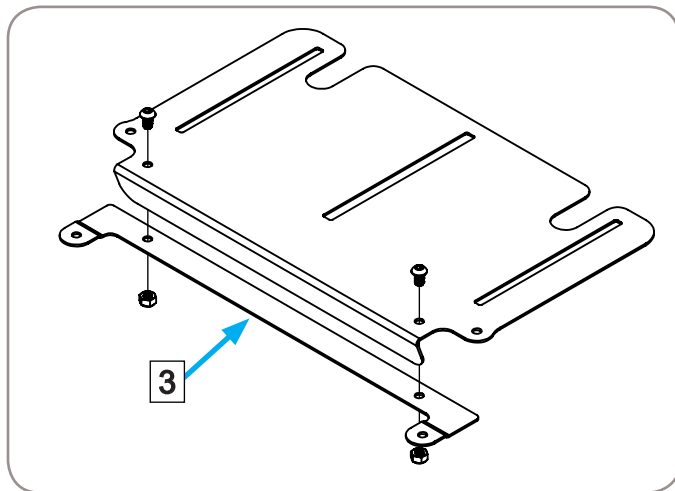

Figure 24
6. Reinstall seat plate as shown in Figure 24.